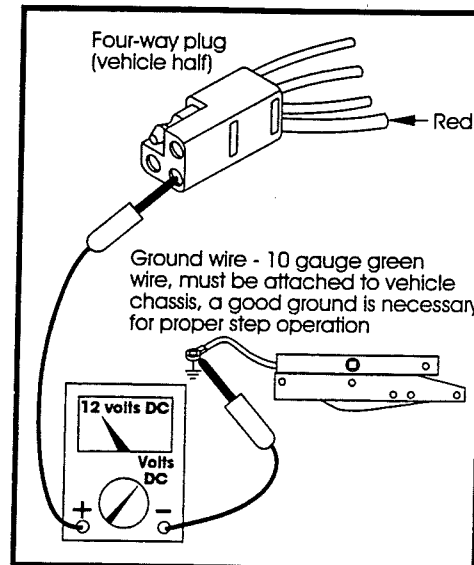

Figure 7
13. To check the main power source, connect the voltmeter between the red wire from the four-way plug (vehicle half) and the ground terminal at the end of the control unit's 10 gauge green ground wire (See Figure 7). The reading should be a minimum of 12 volts DC.